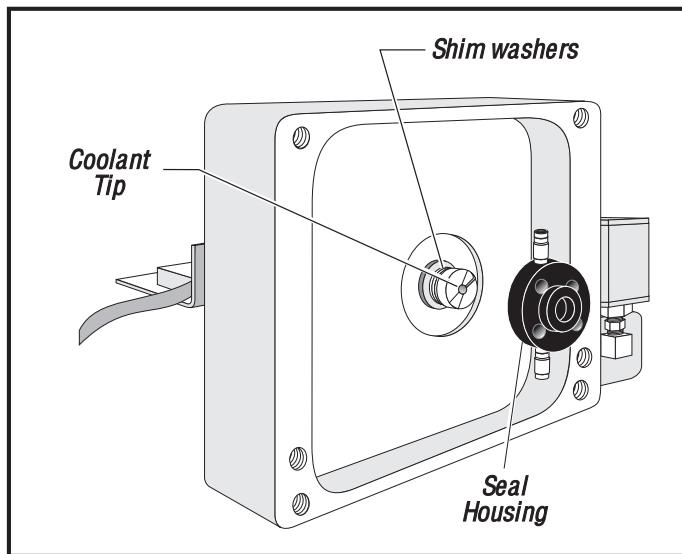

Figure 7-5. Coolant tip and seal housing (TSC machines only).
5. The clearance from the tool holder to the block should be zero (0). To accomplish this, set the jog increments to .001 and jog in the negative (-) Z direction a few increments at a time. Between these moves, push the TOOL RELEASE button and feel for movement by placing your finger between the tool holder and the spindle. ***Do this until no movement is felt.*** You are now at zero (0).
6. Press the MDI key and turn the jog handle to zero (0). Press HANDLE JOG. Jog the Z-axis in the positive (+) direction .100".
- If the block is tight at 0.070 or less, the Coolant Tip (figure 7-5) must be replaced. Call your dealer for replacement of the Coolant Tip and the seal housing.